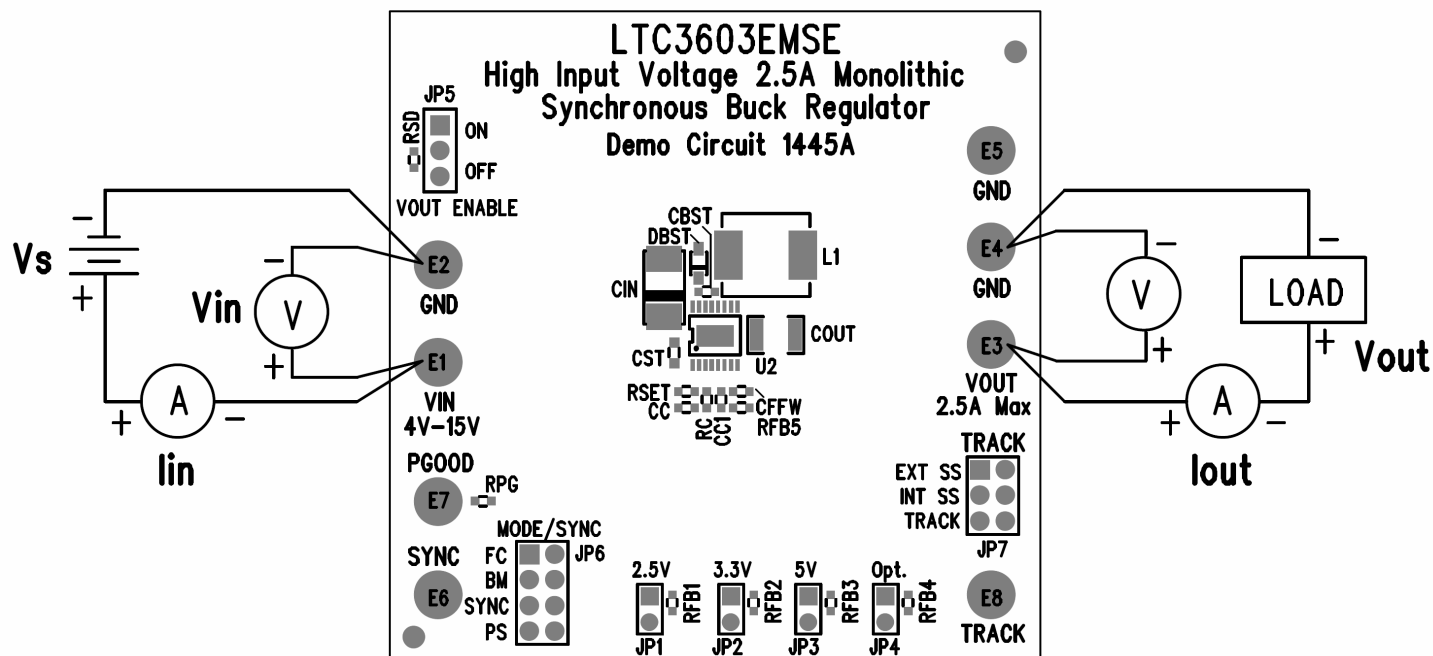

Figure 1. Proper Equipment Measurement Set-Up
Demonstration Circuit 1445A is easy to set up to evaluate the performance of the LTC3603EMSE. For proper measurement equipment configuration, set up the circuit according to the diagram in **Figure 1**. Before proceeding to test, insert shunts into the OFF position of header JP5, which connects the RUN pin to ground (GND), and thus, shuts down the circuit, the forced continuous (FC) position of header JP6, the external soft-start (EXT SS) position of header JP7, and the 3.3V output voltage header, JP2.
With the DC1445A set up according to the proper measurement and equipment in **Figure 1**, apply 6.3V at Vin (Do not hot-plug Vin or increase Vin over the rated maximum supply voltage of 15V, or the part may be damaged.). Measure Vout; it should read 0V. Turn on the circuit by inserting the shunt in header JP5 into the ON position. The output voltage should be regulating. Measure Vout - it should measure 3.3V +/- 2% (3.234V to 3.366V).